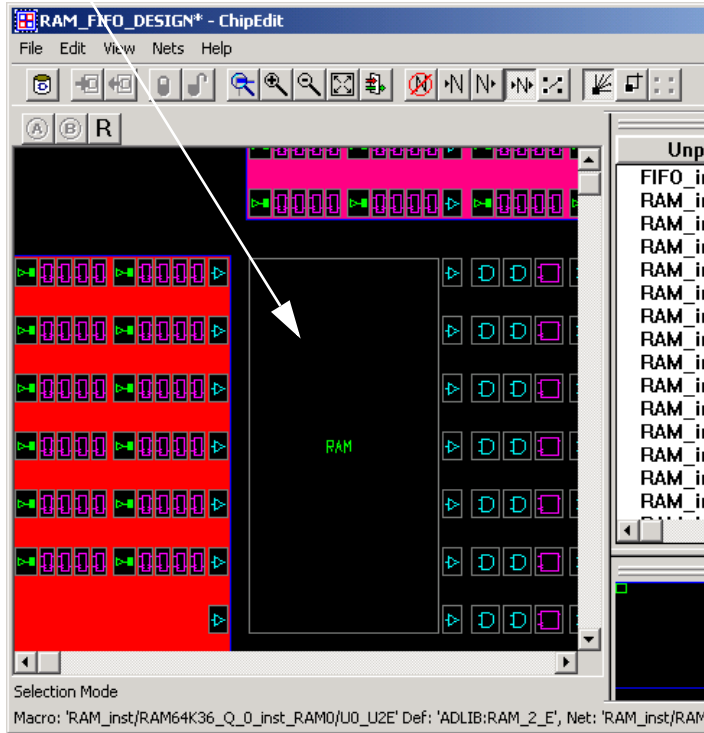

Figure 2-1. Memory Cluster (Accelerator Family)
3. Zoom in and locate a RAM module, as shown in Figure 2-1.